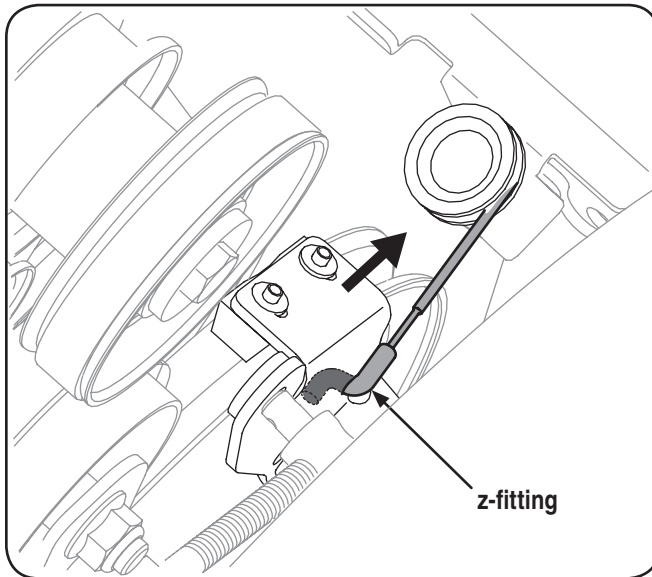

Figure 7-5
3. Pull the brake bracket assembly towards the cable guide roller and unhook the auger cable "Z" fitting. Refer to Figure 7-5.